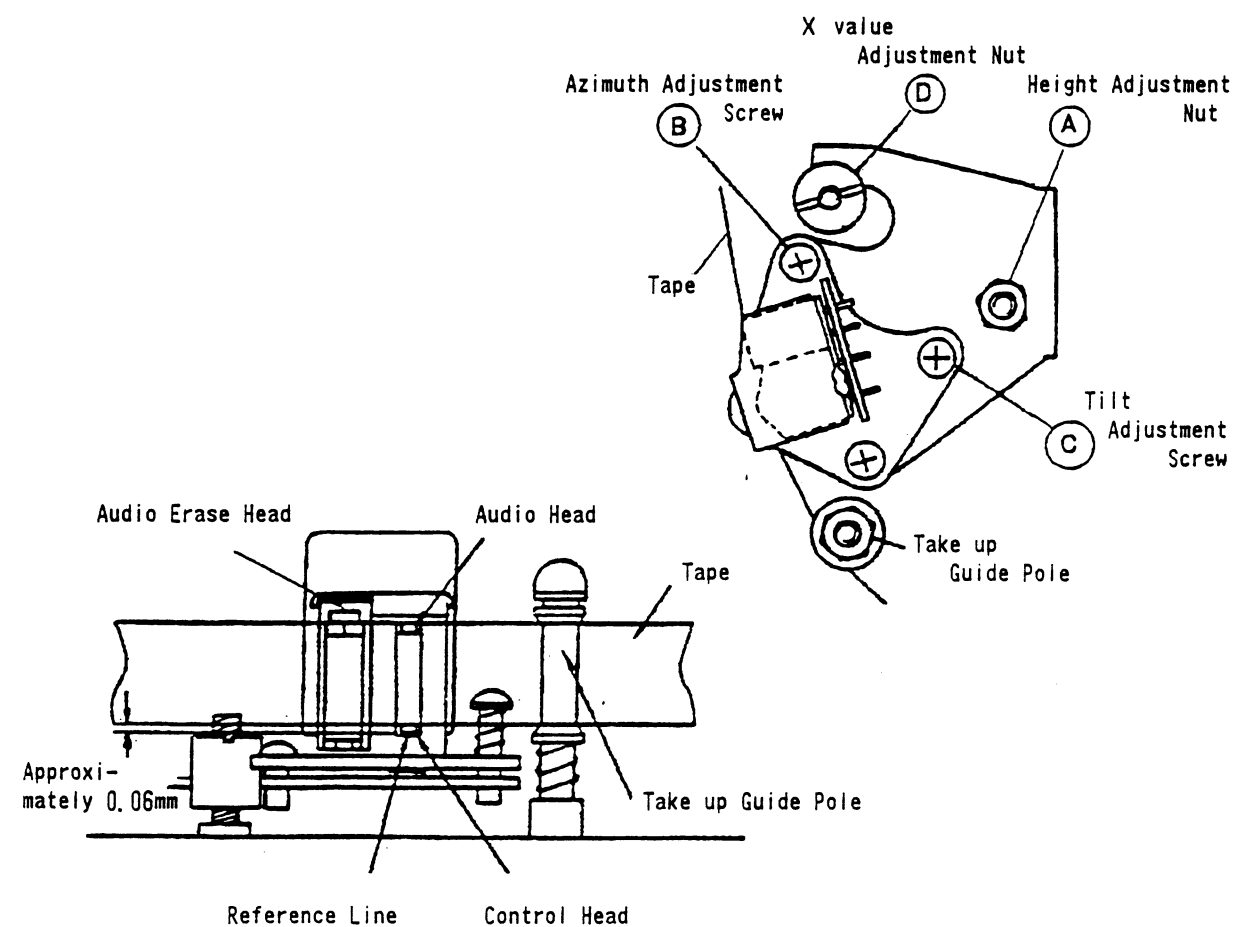

Fig. 2-7
2. Adjust the height of the edge of the audio track on the audio control head by using the height adjustment nut (A) and the tilt adjustment screw (C) so that the tape transport is smooth at the take-up guide pole. Align the audio control head height. (Refer to Fig.2-7.)
2. Confirm that the tape running between the take-up guide roller and the audio control erase head has no slack. If the tape has slack, take it up by turning the tilt adjustment screw ③. (Refer to Fig.2-7.) Then readjust GUIDE ROLLER HEIGHT in section 2-2 and the X value in section 2-4.
3. After confirming on the oscilloscope that a 1 kHz audio signal is being output by playing back F6-A test tape, adjust the height adjustment nut ④ so that the AC voltmeter's reading is brought to its maximum level. (Refer to Fig.2-7.)
1. After confirming on the oscilloscope that an audio signal is being output by playing back F6-N test tape, adjust the azimuth adjustment screw ⑤ so that the AC voltmeter's reading or oscilloscope waveform is brought to its maximum level (Refer to Fig.2-7).
Note: Fix the screw ⑤ with lock paint after readjustment (Refer to Fig.2-7).